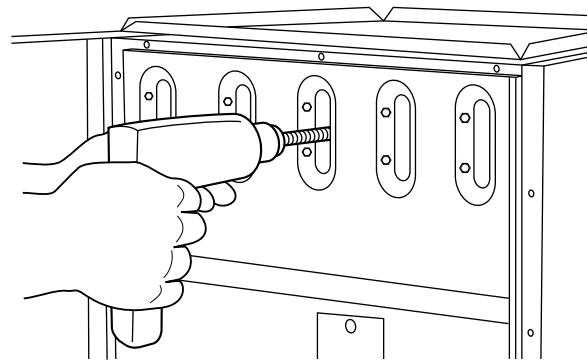

Fig. 46 – Cleaning Heat Exchanger Cell
- (2.) Insert brush end of cable into the outlet opening of cell and slowly rotate with drill. DO NOT force cable. Gradually insert cable into upper pass of cell. (See Fig. 46.)